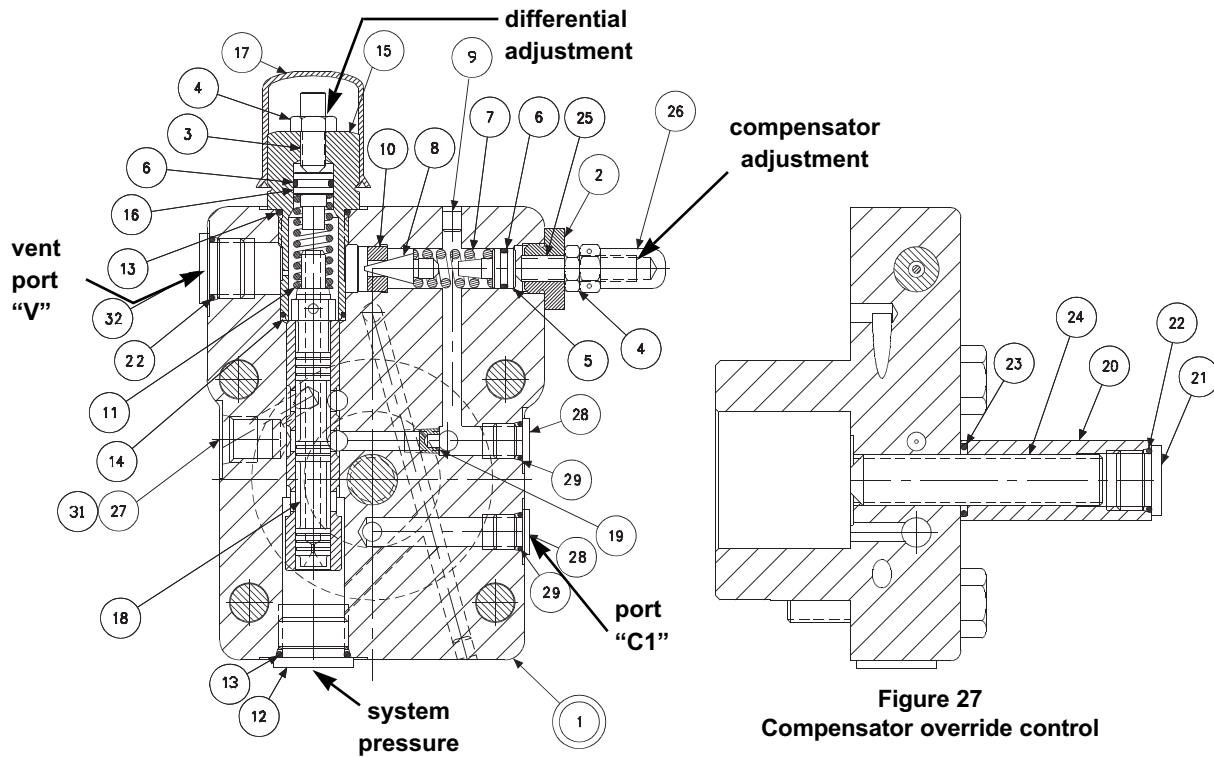

Figure 27
PARTS LIST FOR FIGURE 27
1. See Figure 27. Remove tube line to cap.
2. Remove maximum volume stop assembly (items 20, 21, 22, 23, 24).
4. Remove plug (15) and attached parts. Remove spring (11) and spool (18).
5. Remove adjusting plug (2) and attached parts. Remove seal piston (5). Note: a 10-24 screw may be attached to assist in pulling the piston. Remove spring (7) and cone (8).
6. Do not remove sleeve in body (1). Sleeve is pressed into cap and finished to size. If sleeve, snout or cap is worn, replace the cap-sleeve assembly (1).
7. Examine seat (10) for wear. Do not remove unless damaged.
Ref. Figure 27